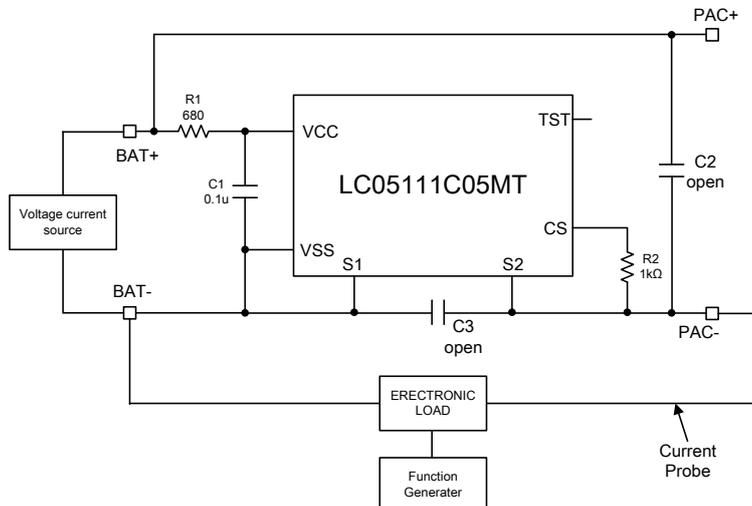

Figure2. LC05111C05MTGEVB Recommended Test Set Up for Charge/Discharge Current detection
1. Connect LC05111C05MTGEVB like upper Figure2.